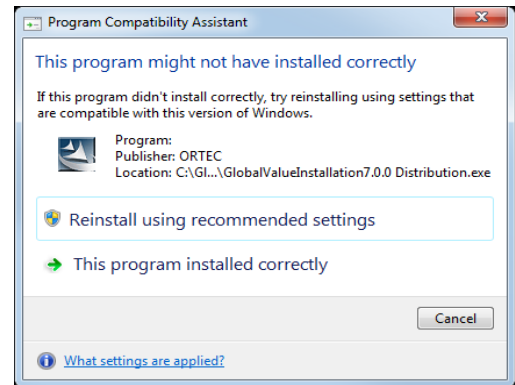

Figure 2.1.2 Program Compatibility
- If the message shown in Figure 2.1.2 is displayed after the installation has completed, then select the “This program installed correctly” option.